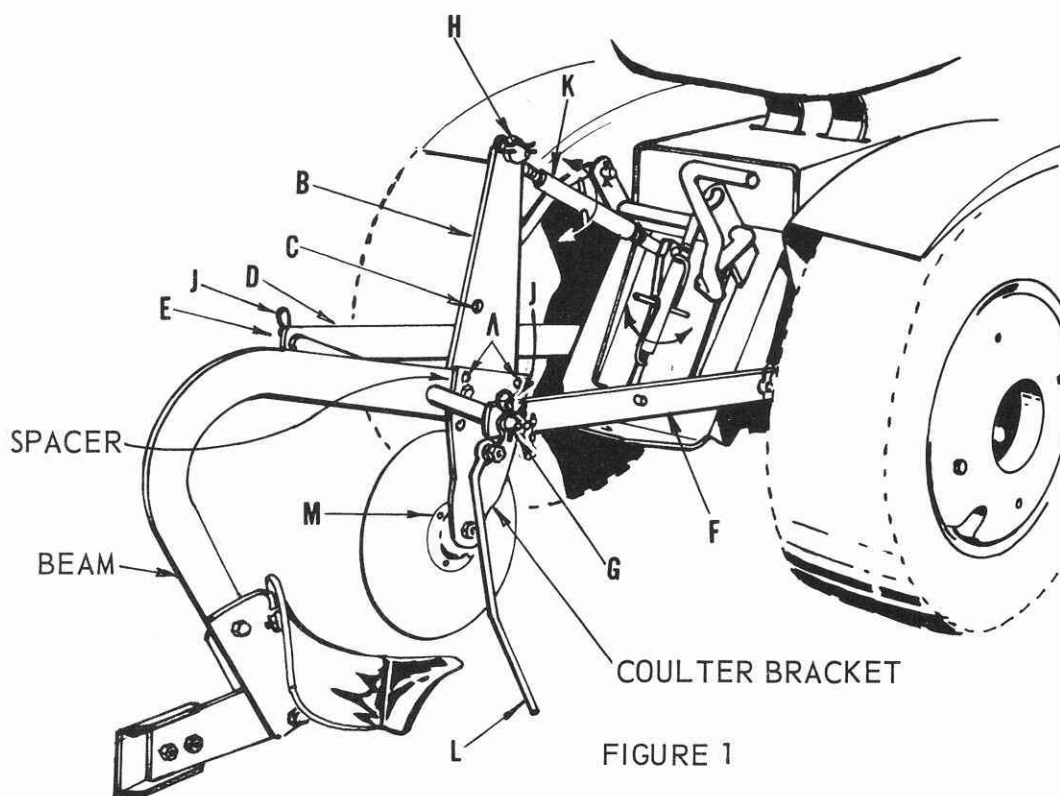

FIGURE 1
2. Remove nuts and bolt (A) from beam and coulters bracket. See Fig. 1.
3. Assemble hitch bracket (B) to beam as shown with bolts removed in step above. Important: Extra hole (C) in hitch bracket will be toward back of plow as shown in Fig. 1.
4. Assemble coulters bracket with coulters to beam using center holes as shown in Fig. 1. NOTE: Be sure spacer is replaced on rear bolt between beam and coulters bracket. Secure with lock washers and hex nuts. Tighten nuts securely. Refer to page 4 for coulters adjustment for other than normal soil conditions.
To increase the plowing depth, adjust the top link (Figure 1, Illustration K), by rotating turnbuckle to shorten the linkage. The plow will go deeper until plow levels, and under normal conditions will hold that depth. This levels the plow and will leave a level furrow bottom. Adjustment can be varied to give a better furrow turning.